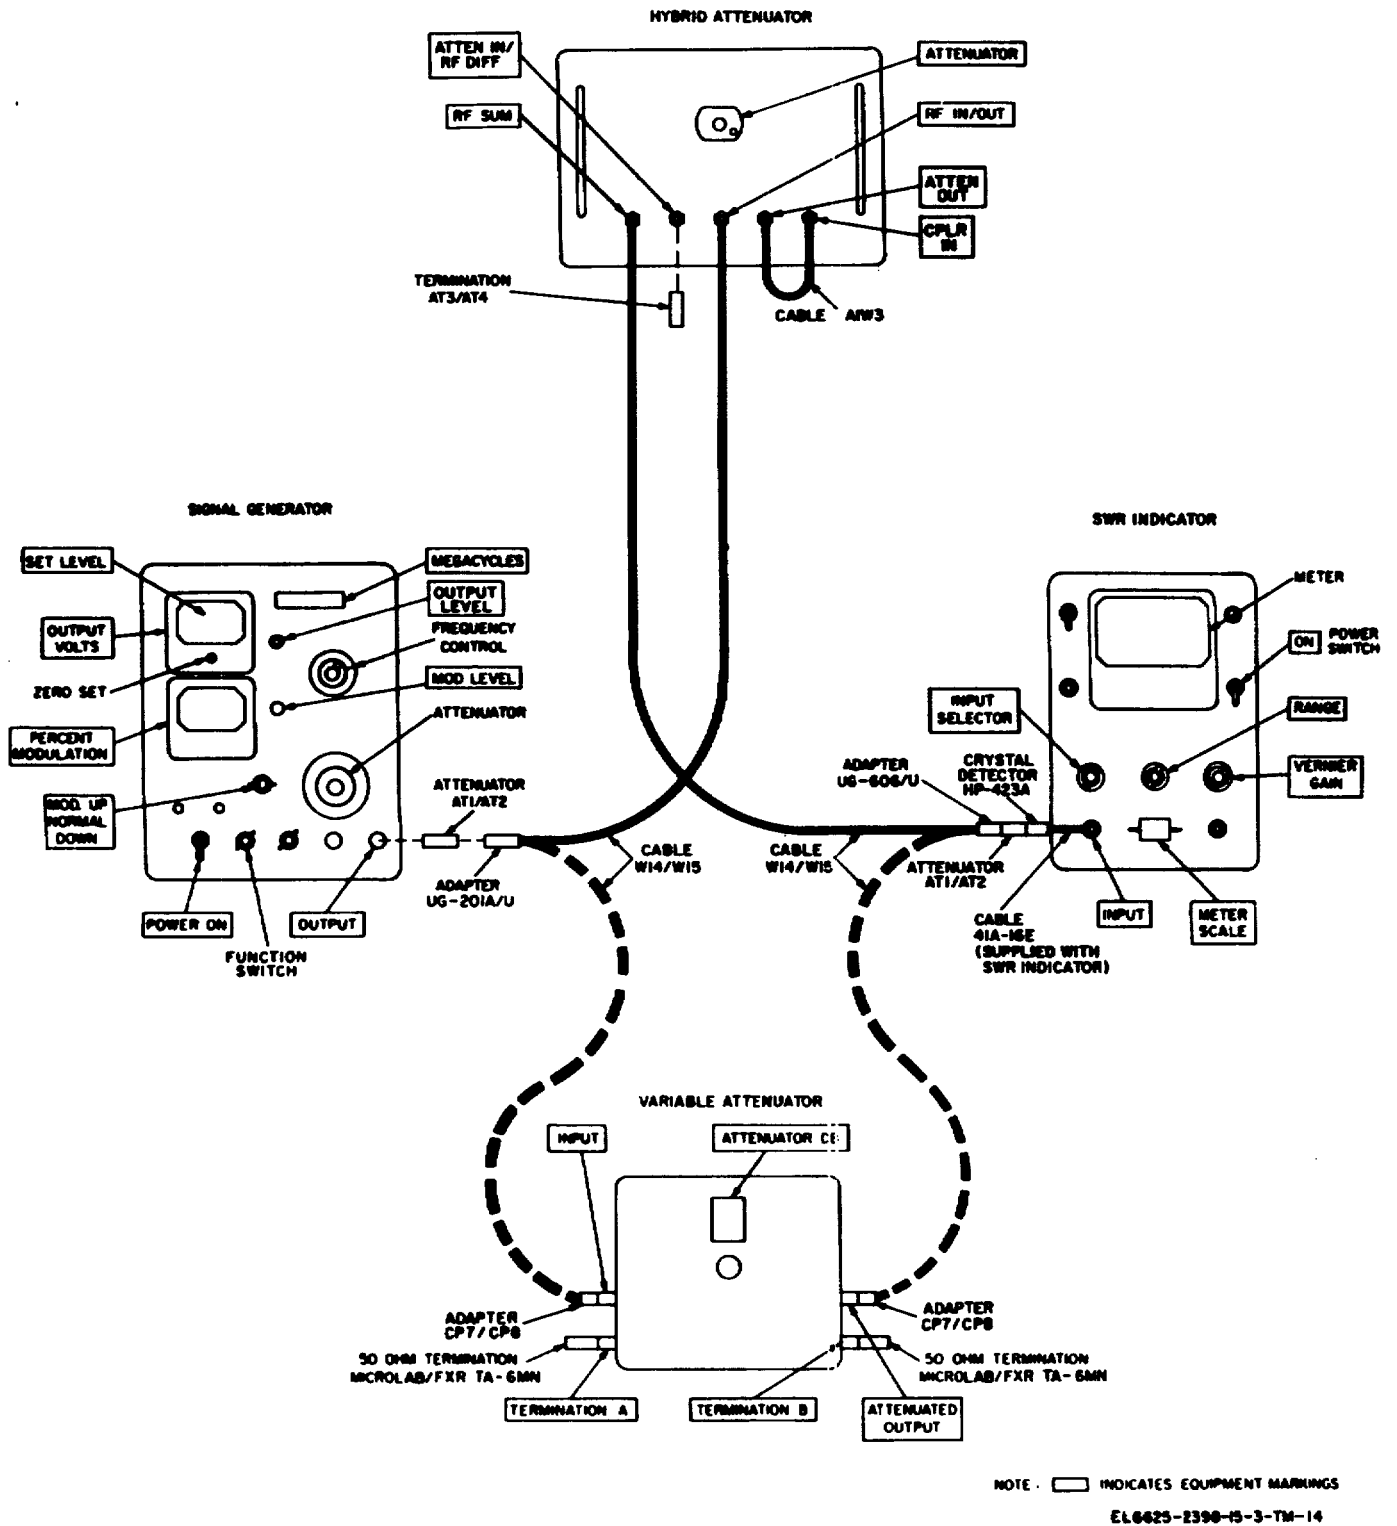

Figure 6-2. Hybrid attenuator sum channel (RF IN/OUT to RF SUM jacks) insertion loss, calibration conclusions.
(fig. 6-2)
b. *Procedure.* Connect the equipment as shown in solid lines (fig. 6-2) and proceed as follows:
(1) On the signal generator, set the MEGACYCLES dial to 1090 with the frequency control knob. Set the function switch to CW. and turn on the signal generator. Allow a minimum of 20 minutes warm-up period before proceeding.
(2) With the METER SCALE set to NORMAL, and INPUT SELECTOR set to XTAL 200-KΩ, turn on the SWR indicator and allow a minimum of 10 minutes warm-up period before proceeding.
(3) Turn on the signal generator and zero set the OUTPUT VOLTS meter.
(4) Turn on the signal generator, and adjust their OUTPUT LEVEL, control knob for an OUTPUT VOLTS meter indication at the SET LEVEL (+4DBM) mark, with the attenuator set to 0dB.
(5) On the signal generator, set the function switch to 1000 ~ the MOD. UP-NORMAL -DOWN to NORMAL, and adjust the MOD. LEVEL, control for a reading of 50 on the PERCENT MODULATION meter. With the SWR indicator METER SCALE set to EXPAND, adjust the SWR indicator VERNIER GAIN control and RANGE switch for an exact meter reading (e.g., 5 on the EXPANDED DB meter scale). Record the meter reading.
(6) Disconnect the hybrid attenuator under test and connect the variable attenuator, as shown by the broken lines in figure 6-2.
(7) Adjust the variable attenuator ATTENUATOR DB control for the same SWR indicator meter reading recorded in step b(5). Insertion loss on the ATTENUATOR DB control of the variable attenuator must indicate  $6.5 \pm 1.5$ dB.
(8) Correct the hybrid attenuator calibration tag marking for 1090MHz, if incorrect.
(9) Reconnect the hybrid attenuator, solid lines figure 6-2.
(10) Reset the signal generator MEGACYCLES dial to 1030 and repeat steps (3) through (7) above.
(11) Correct the hybrid attenuator calibration tag marking for 1030MHz, if incorrect.